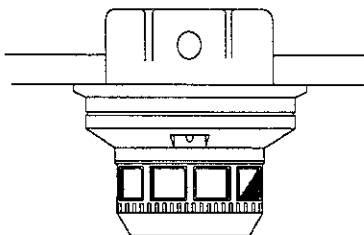

Figure 1. Flush mounting of detector on octagon box
1. Units may be mounted directly to a 3-inch or 4-inch, 1-1/2-inch deep octagonal electrical box using the supplied mounting bracket (See Figures 1 and 2).